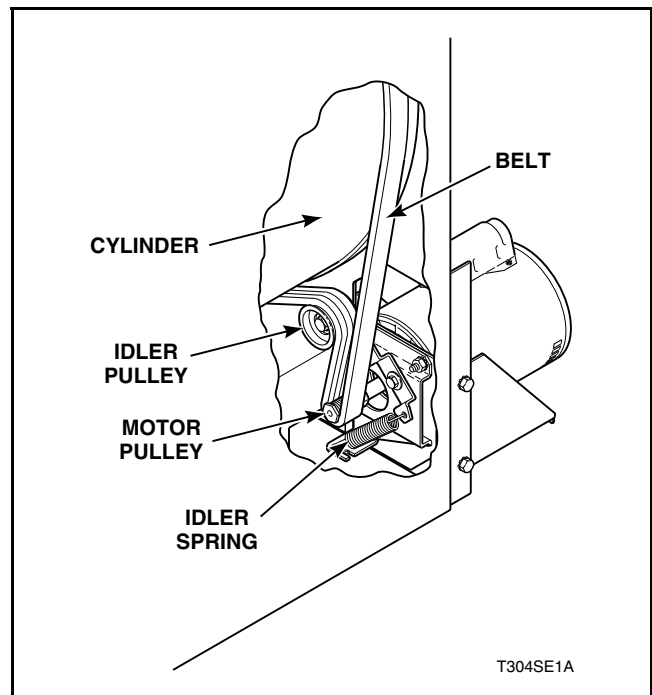

Figure 36
Refer to *Figure 36*.
NOTE: When installing cylinder belt, be sure belt is properly positioned around cylinder and on motor pulley and idler. Rotate cylinder clockwise to align belt around belt path. *Figure 36* shows proper belt position for stacked tumblers.
- b. Reach into cabinet and carefully apply downward pressure on idler pulley. Slide belt off pulley and slowly release pressure on idler pulley. Refer to *Figure 36*.